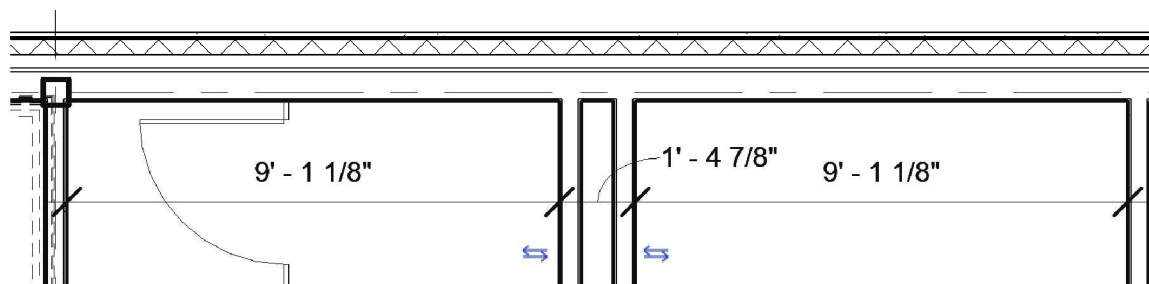

FIGURE 11-1.4 Toilet room wet-wall locations
12. Add an additional **4 7/8"** gyp. bd. wall as shown in **Figure 11-1.4**.
14. Adjust the flip-control for each wall so they are positioned, in relation to the wall, as shown in Figure 11-1.4.
15. Reposition the walls, if needed, so they match the dimensions shown in Figure 11-1.4; use the *Measure* and *Move* tools plus the temporary dimensions.
26. Use the *Measure* tool to ensure the walls are in the proper position; see Figure 11-1.4.